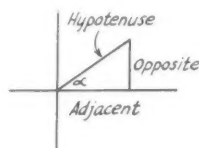

Fig. 3
Suppose we have an angle  $\alpha$  (the Greek letters  $\alpha$  (alpha),  $\beta$  (beta), and  $\theta$  (theta) are most frequently used to represent the angles) in the first quadrant, as shown in Fig. 3. The longest side of a right triangle is always known as the *hypotenuse*, the side opposite the angle under consideration is known as the *opposite* side, and the third side is known as the *adjacent* side. This is illustrated in Fig. 3. We can now define the three most important and fundamental *trigonometric functions*, the *sine*, the *cosine*, and the *tangent*, commonly abbreviated as *sin*, *cos*, and *tan*.
2. Remember the old rule from plane geometry that the square of the length of the hypotenuse of a right triangle is equal to the sum of the squares of the lengths of the other two sides? Well, here's a use for it. Applying the rule to the triangle in Fig. 3, we have